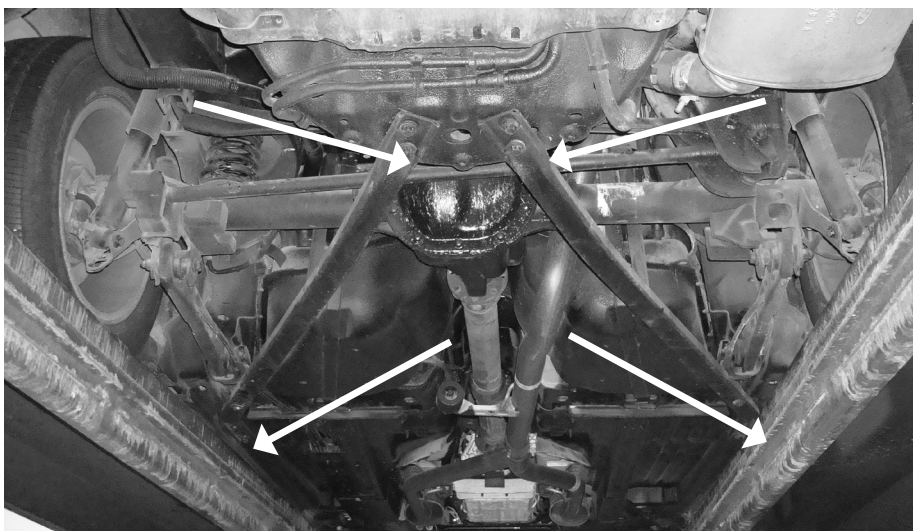

Fig. 3
Disconnect the chassis support bracing that is underneath the axle (Fig. 3).
13. For Convertible Models: Reinstall chassis support brace bolts (Fig.3).